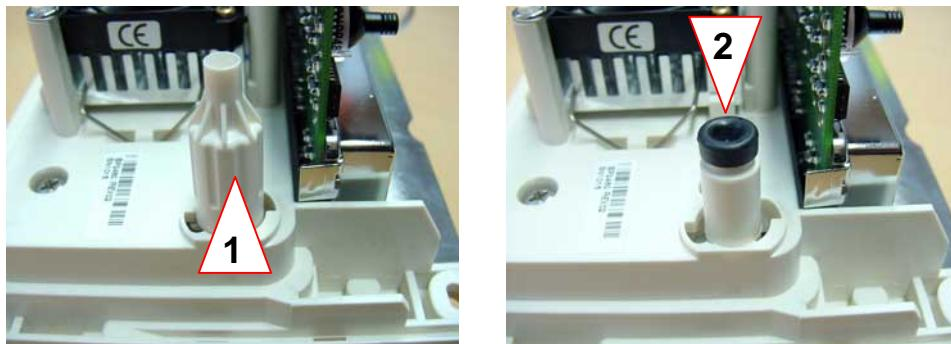

Fig. 3-25 FMS connector sealing 1
2. Remove the holder of the FMS connector sealing 1 by turning left (see Fig. 3-25, 1)
3. Take out the FMS connector sealing 1 (see Fig. 3-25, 2).